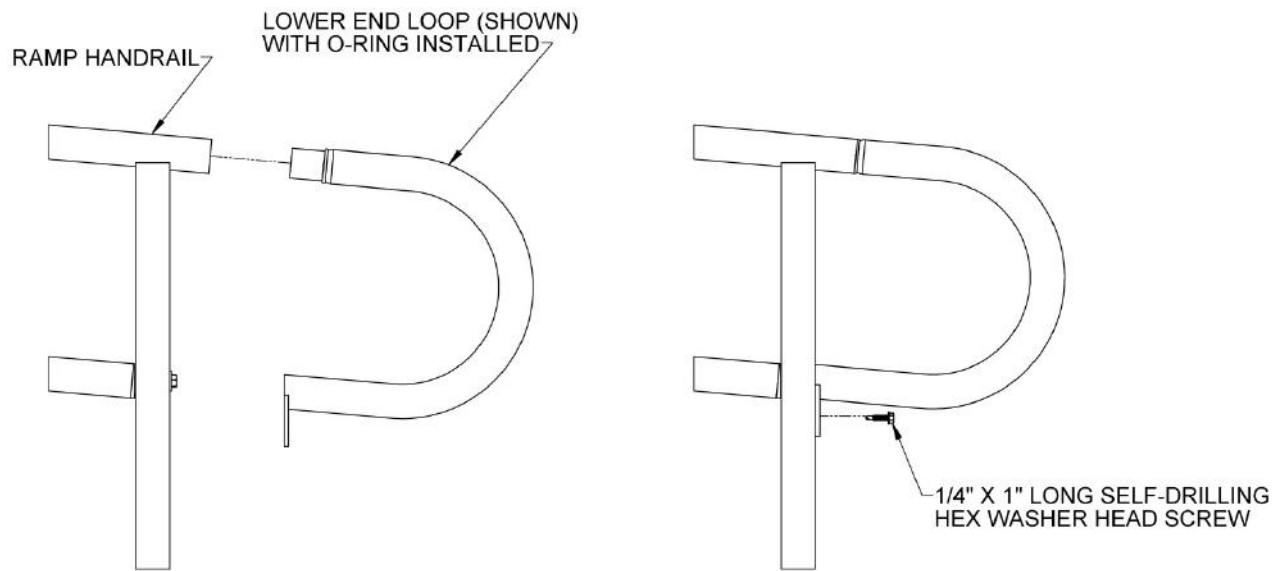

FIG. 6.6
- 6.2.1.1. Install one 1/4" x 1" long hex washer head self-drilling screw through the hole in the end loop attachment plate into the ramp handrail post and tighten securely (FIG. 6.6).